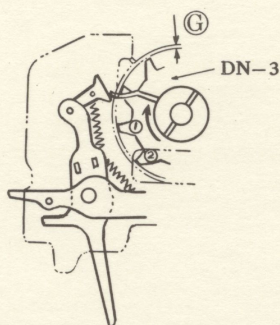

Fig. 33
Care should be taken to provide easily skipping over Tooth ① of DN-18 to obtain uniformity of the positions of Margin Stop. (Fig. 33)